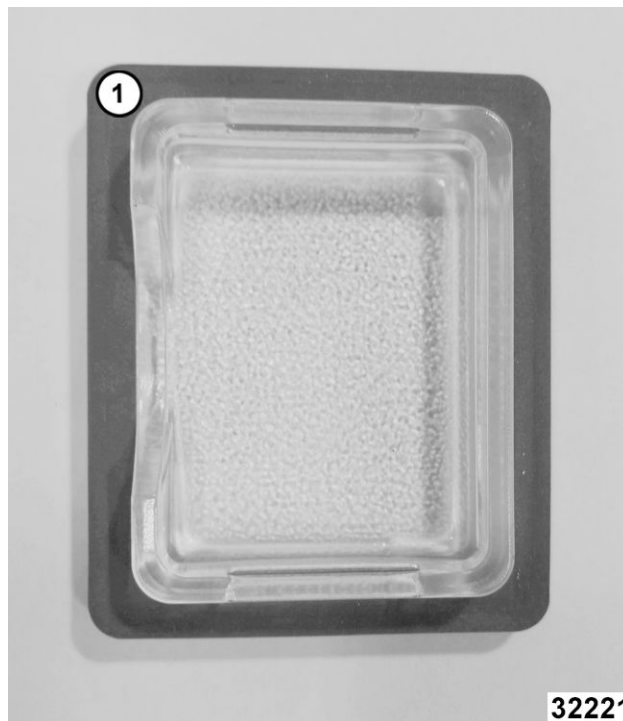

Fig. 68
**NOTE:** Verify gasket (1, Fig. 68) is flat on lamp cover and not damaged.